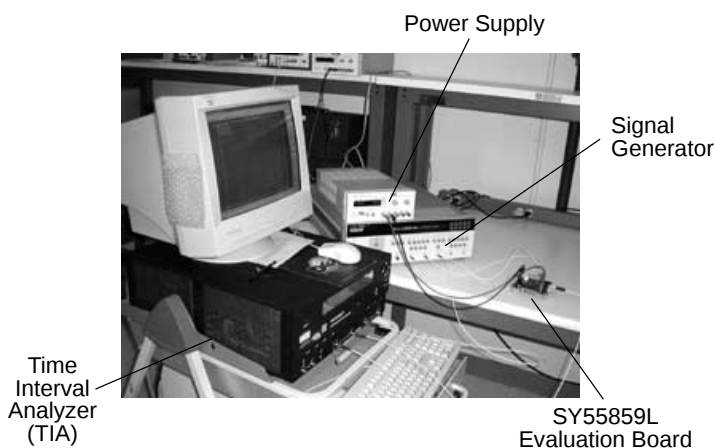
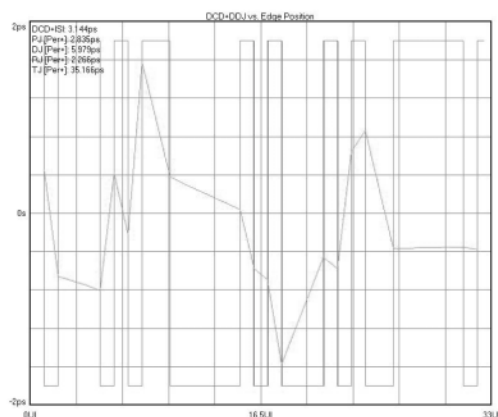

Figure 3. Measuring DJ
Figure 4a. TIA Output of the Source, Just After Calibration
This section describes how to measure DJ using the SY55859L evaluation board. An example bench setup is shown in Figure 3. Of the various methods to obtain DJ, this document describes use of a Wavecrest DTS-2079 TIA. Other instruments, will, of course, require slightly different procedures, though the major steps are common. Following these instructions, you will be able to measure DJ, and obtain results like Figures 4a and 4b below.
Using one pair of length matched SMA cables, connect the differential output of the signal generator to J1, labeled "DA0," and J5, labeled "/DA0." In the setup shown in Figure 3, an Agilent 8133A signal source generates a $2^{32}-1$ PRBS pattern.
8. *Use Data Source:* Set the data source to generate a K28.5 pattern, which is the 20-bit sequence “0011 1110 1011 0000 0101,” where the spaces are added for readability. The Agilent 8133A used in Figure 3 can only generate a 32-bit pattern. In this case, use “0011 1110 1011 1010 1100 0001 0100 0101,” where once again, spaces are added for readability.
Return to page 1. Perform an acquisition, and record the DJ number. This step calibrates the TIA against the signal generator output, and then records the “clean” DJ value from this signal generator and TIA combination. You will get something like Figure 4a below.